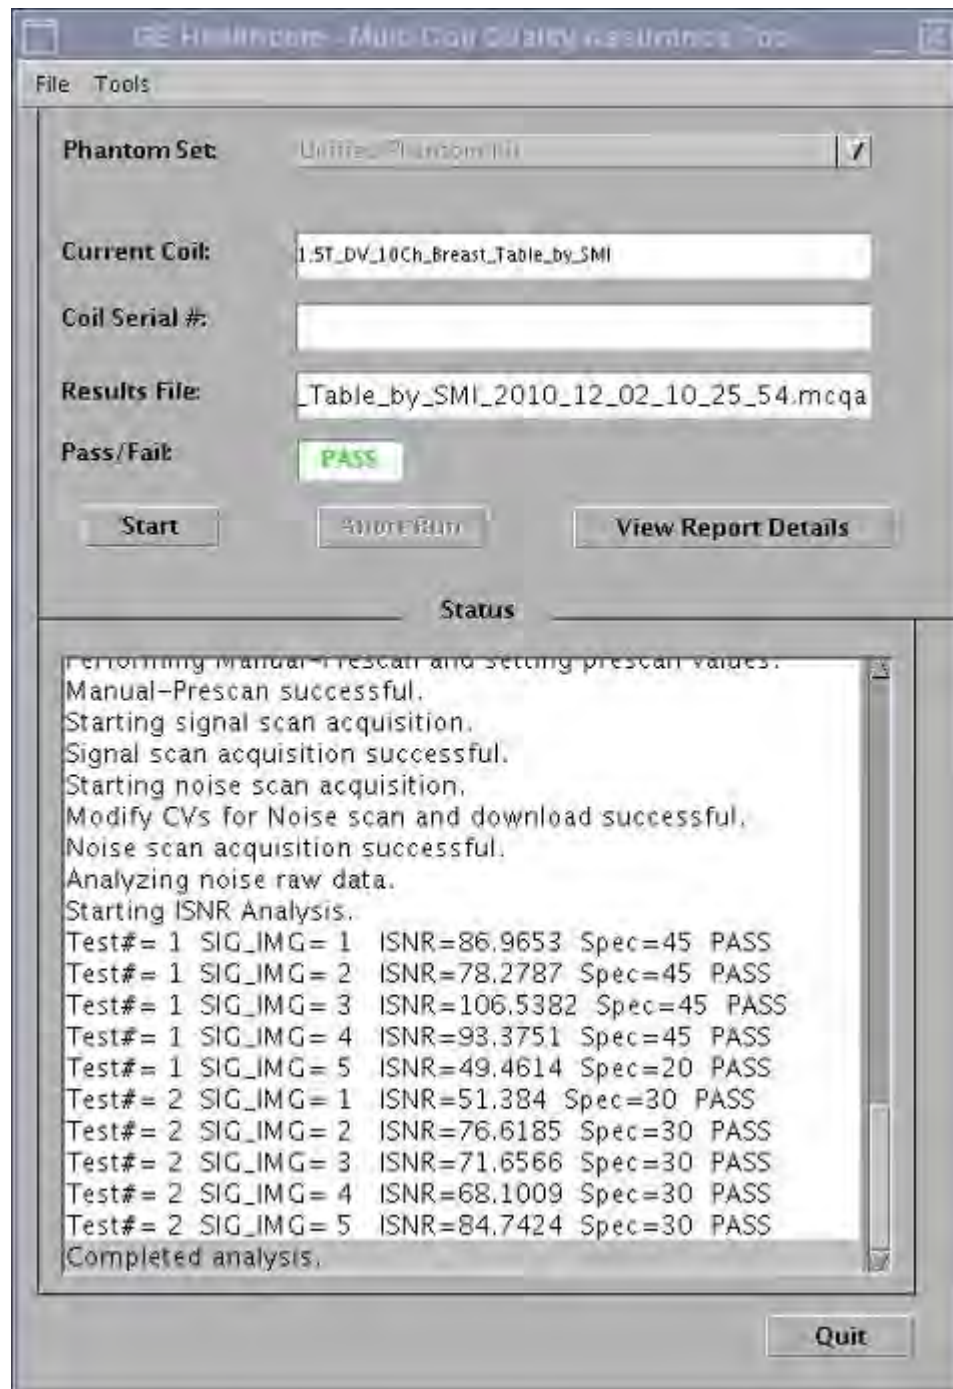

Figure 68: Screen Capture – MCQA Tool Finish
7. Click 'Start', and answer 'Yes' to the dialog box that opens. The MCQA program will run for approximately 10 minutes, and test each channel of the system independently. When the program finishes, the screen capture shown in Figure 68 will display.
8. The MCQA program will display a PASS/FAIL indicator for each image (SIG_IMG in Figure 68) which corresponds to a particular channel on one of the coils tested. If you receive a FAIL indication, check that all coils are connected properly and rerun the test. If the test fails the second time refer to the following table. Additional information related to the specific channels